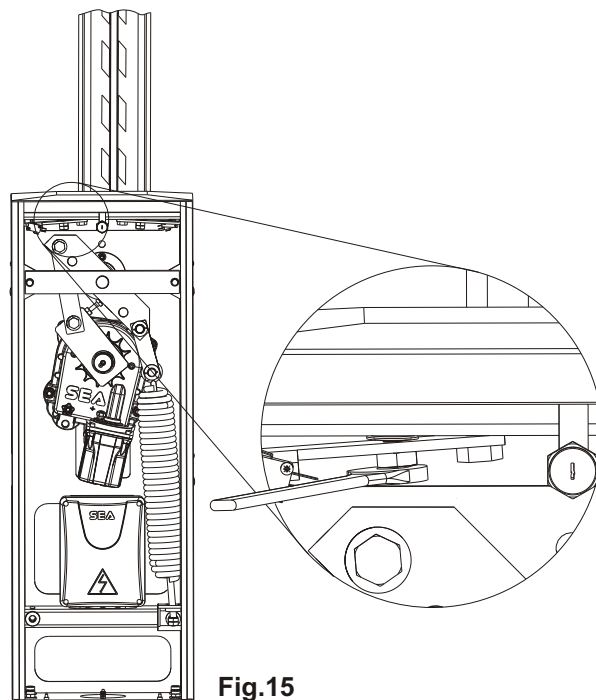

Fig. 15
- Release the end stroke screws unscrewing the lock nuts on the limit switch (Fig. 15).
- Screw or unscrew the end stroke screws so that the beam stays in perfectly vertical position in opening and in perfectly horizontal position in closing (Fig. 15).